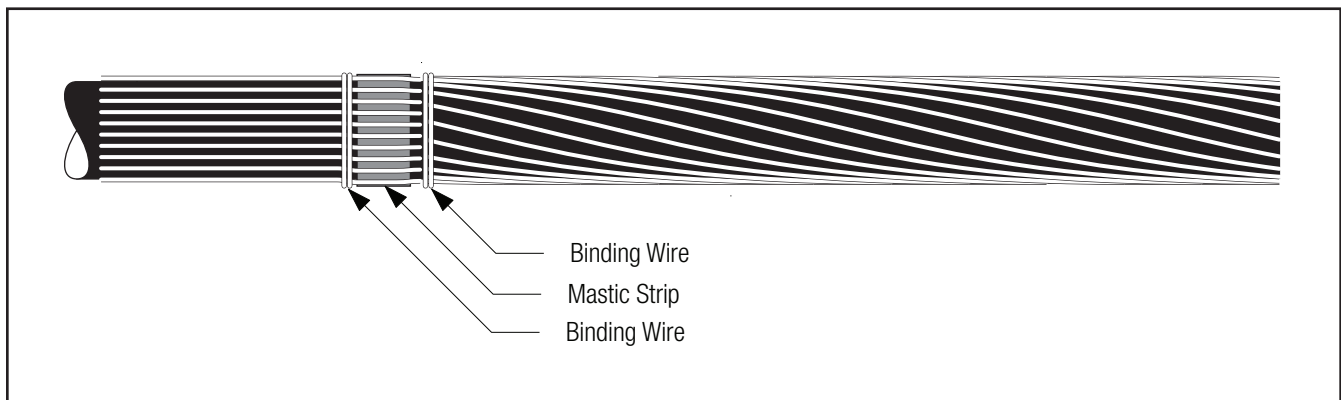

Figure 4
2.4.2 Place a strip of mastic around cable semi-con next to neutral binder. Fold neutrals into mastic and place another binder wire on the other side of the mastic (*Figure 4*).